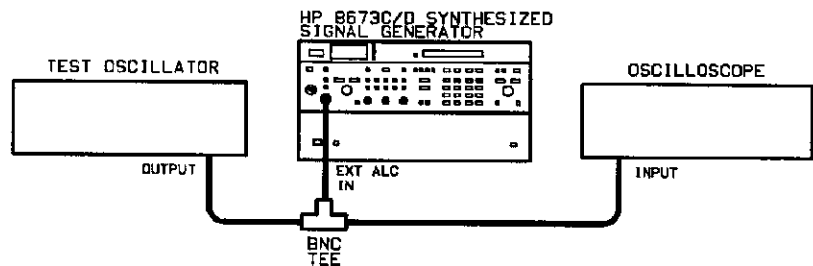

Figure 8-47. External ALC Check Test Setup
- Set the Signal Generator for external ALC (POWER METER) and connect the test equipment as shown in figure 8-47.